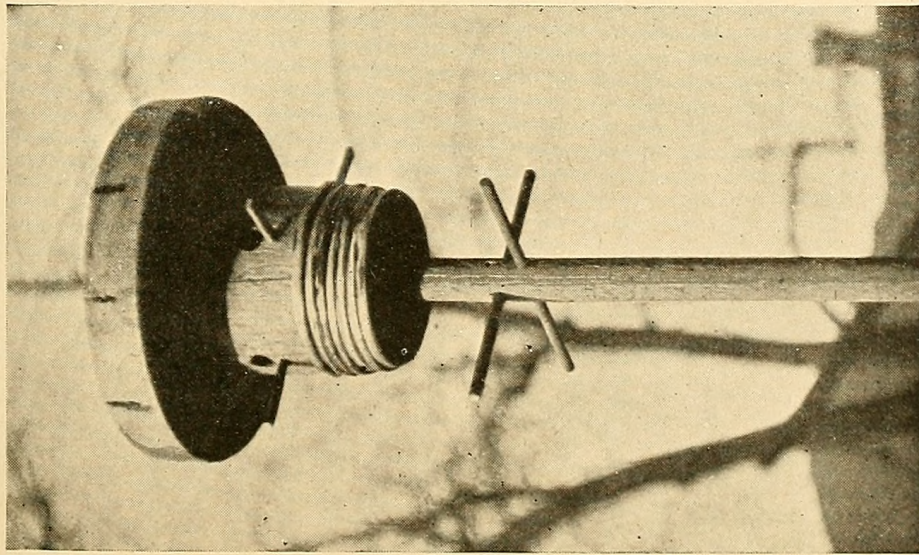

FIG. 483. A BIRD TOWER.
**A Bird Tower** such as is shown in Fig. 483. The keg must be thoroughly washed out with hot water and either washing soda or lye, and should be painted inside, to remove the fish odor. Bore four openings in the side of the keg, and fasten a perch stick in a small hole below each opening.